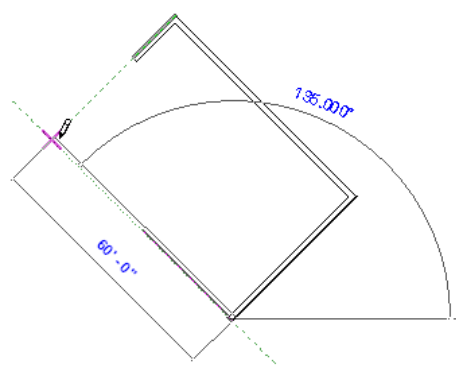

Figure 2-38 Sketching the fourth inclined wall segment
8. To create the next wall, move the cursor upward to the left until the perpendicular object snap appears. When the temporary dimension value displays 60'0", click to create the inclined wall segment, as shown in Figure 2-38.